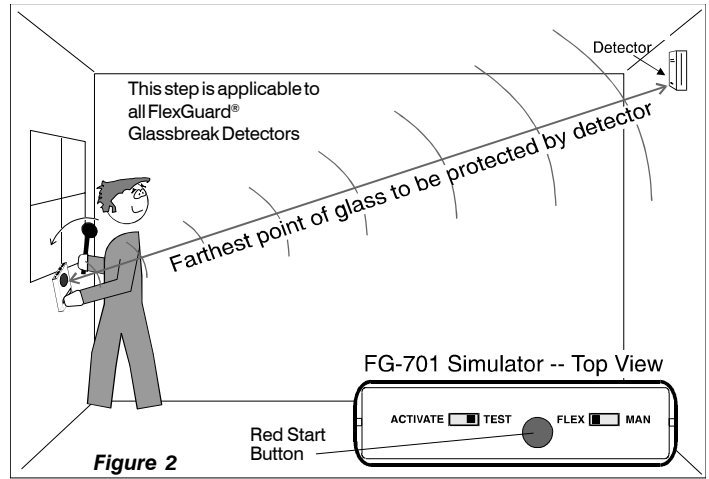

Figure 2
1. Set the FG-701 switches to the TEST and FLEX modes. (See Figure 2.)